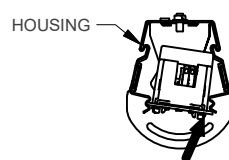

FIGURE 3: BOARD SNAP IN
- 6) Snap in 4' LED board by inserting driver cover into the housing. Then start one side of board into groove and snap LED board into housing by pushing opposite of board until it snaps into place as shown in Fig 3.